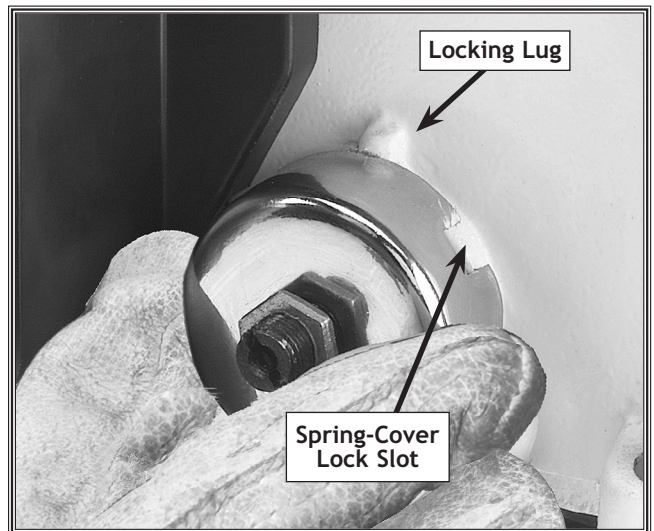

Figure 26. Typical spring cover lock slot and locking lug.
5. Pull the cover outward just enough to disengage the spring-cover lock slot from the locking lug (see **Figure 26**).
6. Rotate the cover counterclockwise to increase spring tension, or let the cover slowly unwind in the clockwise direction to reduce spring tension (see **Figure 26**).